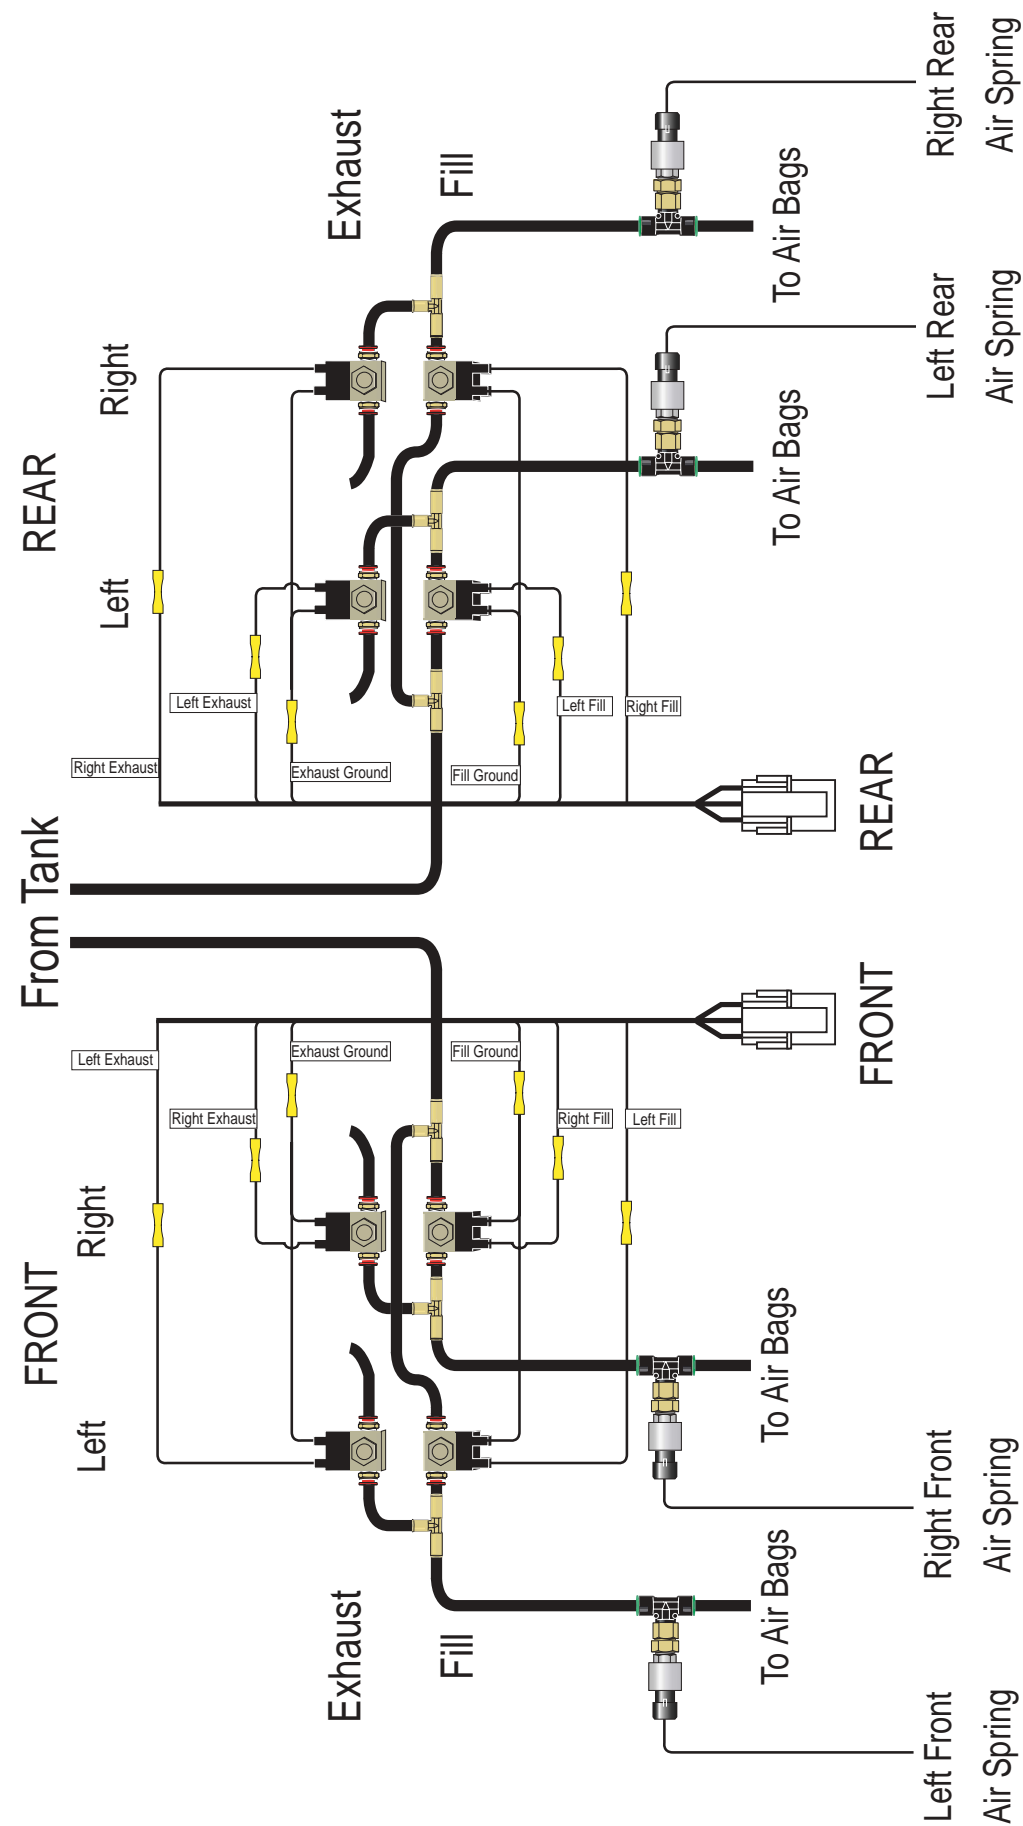

Figure 7
6. View Figure 7 on page 7 for valve wiring and plumbing instructions.